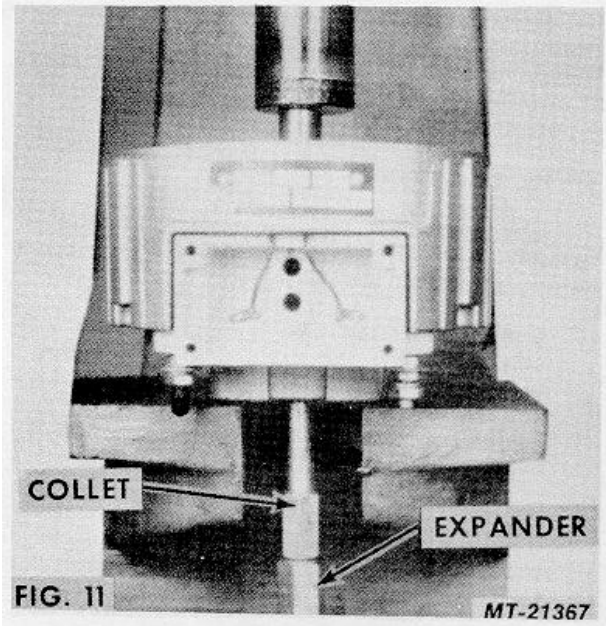

FIG. 11
15. Slip ring end bearing replacement should seldom be required. If it should become necessary, however, press the bearing from the inside of the housing outward, using Snap-On Tool Co., No. CG-40-11 with CG-40-4 (see Fig. 11).